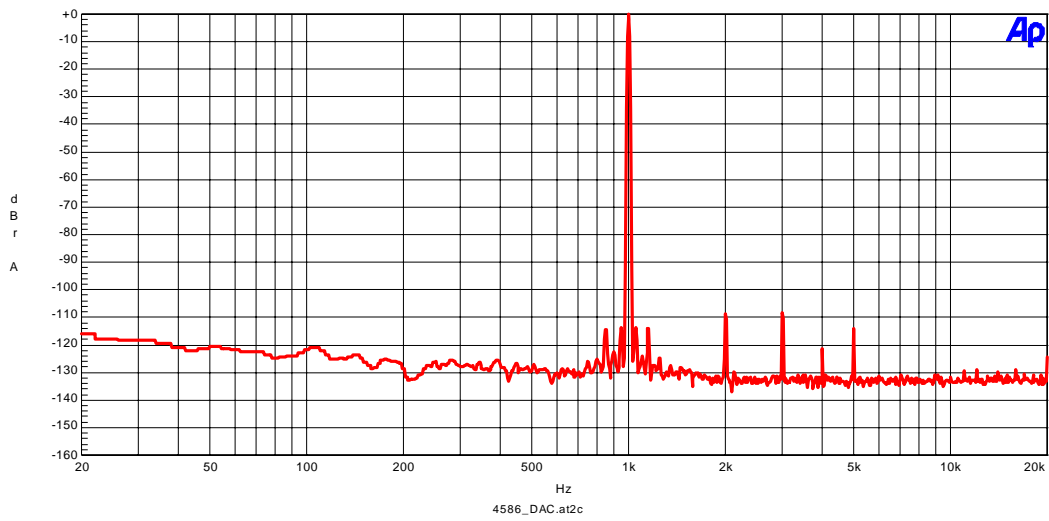

Figure 3-1. FFT (1kHz, 0dBFS input)
- Figure 3-1. FFT (1kHz, 0dBFS input)